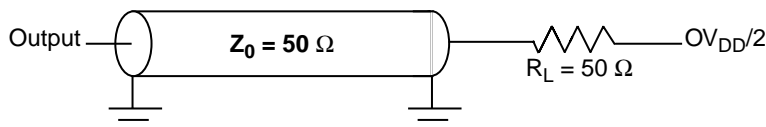
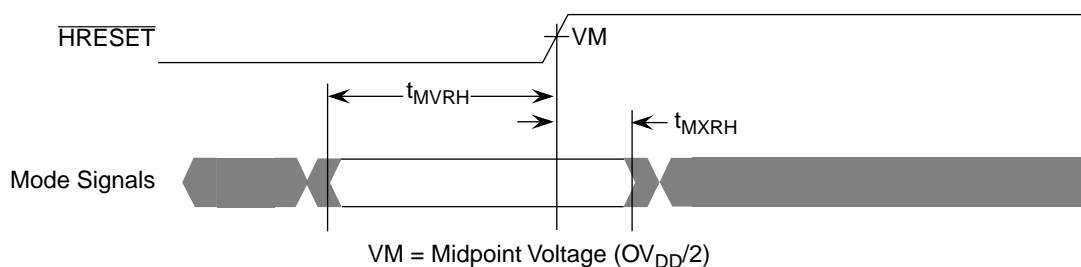

Figure 4. AC Test Load
Figure 5. Mode Input Timing Diagram
Table 10 provides the processor bus AC timing specifications for the MPC7455 as defined in Figure 4 and Figure 5. Timing specifications for the L3 bus are provided in Section 1.5.2.3, “L3 Clock AC Specifications.”
- All input specifications are measured from the midpoint of the signal in question to the midpoint of the rising edge of the input SYSCLK. All output specifications are measured from the midpoint of the rising edge of SYSCLK to the midpoint of the signal in question. All output timings assume a purely resistive 50-Ω load (see Figure 4). Input and output timings are measured at the pin; time-of-flight delays must be added for trace lengths, vias, and connectors in the system.
- The symbology used for timing specifications herein follows the pattern of $t_{(\text{signal})(\text{state})(\text{reference})(\text{state})}$ for inputs and $t_{(\text{reference})(\text{state})(\text{signal})(\text{state})}$ for outputs. For example, $t_{\text{V}(\text{K})\text{H}}$ symbolizes the time input signals (I) reach the valid state (V) relative to the SYSCLK reference (K) going to the high (H) state or input setup time. And $t_{\text{K}(\text{H})\text{O}(\text{V})}$ symbolizes the time from SYSCLK(K) going high (H) until outputs (O) are valid (V) or output valid time. Input hold time can be read as the time that the input signal (I) went invalid (X) with respect to the rising clock edge (KH) (note the position of the reference and its state for inputs) and output hold time can be read as the time from the rising edge (KH) until the output went invalid (OX).
- The setup and hold time is with respect to the rising edge of $\overline{\text{HRESET}}$ (see Figure 5).
Figure 4 provides the AC test load for the MPC7455.
Figure 5 provides the mode select input timing diagram for the MPC7455.